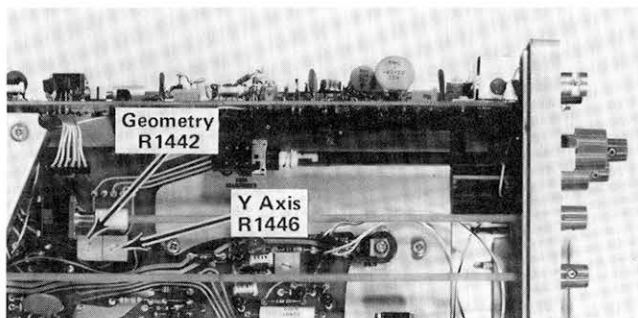

Fig. 5-5. Location of Geometry and Y Axis adjustments.
f. ADJUST—Y Axis Alignment adjustment, R1446, (see Fig. 5-5) to align the center time marker with the center vertical graticule line.
b. ADJUST—Geometry adjustment, R1442, (see Fig. 5-5) for minimum curvature of the markers across the graticule area.